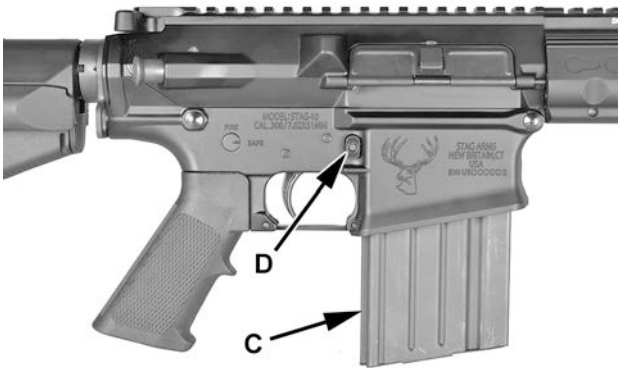

Figure 9
5. Push the magazine (C) up into the magazine well until the magazine release button (D) engages and holds the magazine. Use your hand and tap on the bottom of the magazine to be sure it is seated. See figure 9.